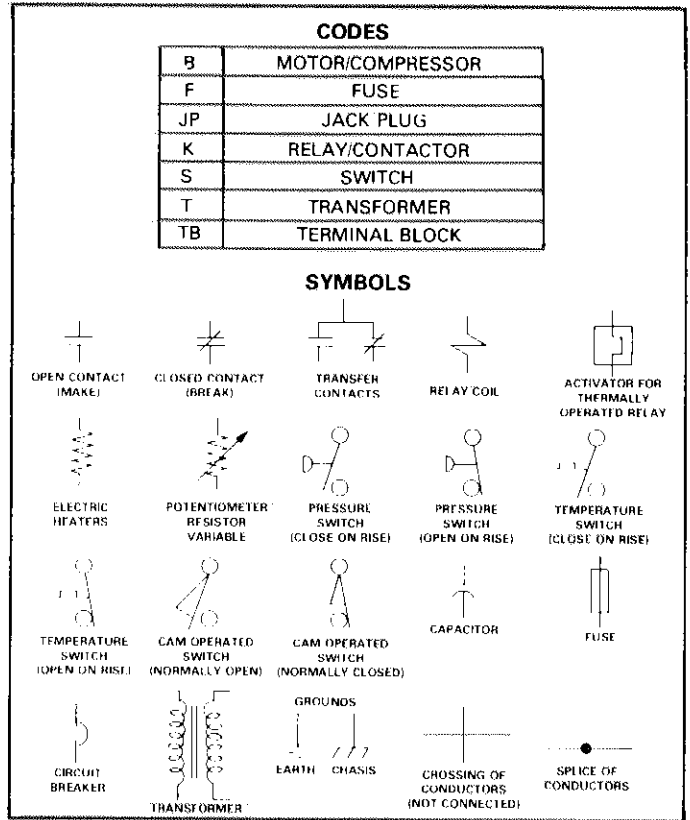

FIGURE 20
- 2 - The graphic symbols for components and code lettering conforms to the "IEEE Standard and American National Standard" of graphic symbols for electrical diagrams. All symbols and code lettering used are approved by the International Electrotechnical Commission (IEC). Refer to Figure 20 for code and symbol identification.